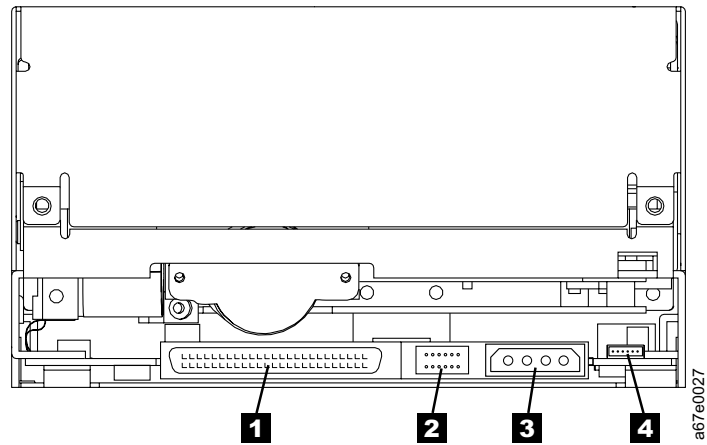

Figure 30. Disconnecting the cables from the tape drive
b. Disconnect the following connectors from the rear of the drive (see Figure 30).